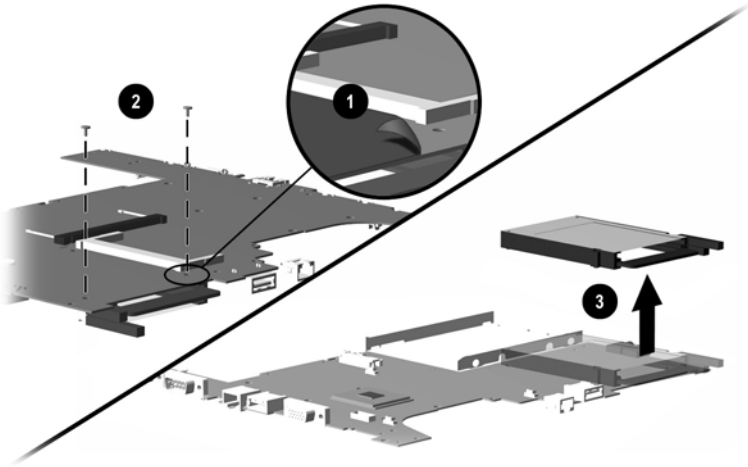

Figure 5-23. Removing the PC Card Assembly
3. Peel back the shielding tape that covers the right PC Card screw ❶ (Figure 5-23).
4. Remove the two silver M2 × 5.0 screws ❷ that secure the PC Card assembly to the system board.
6. Lift up the back edge of the PC Card assembly to disconnect it from the system board ❸.